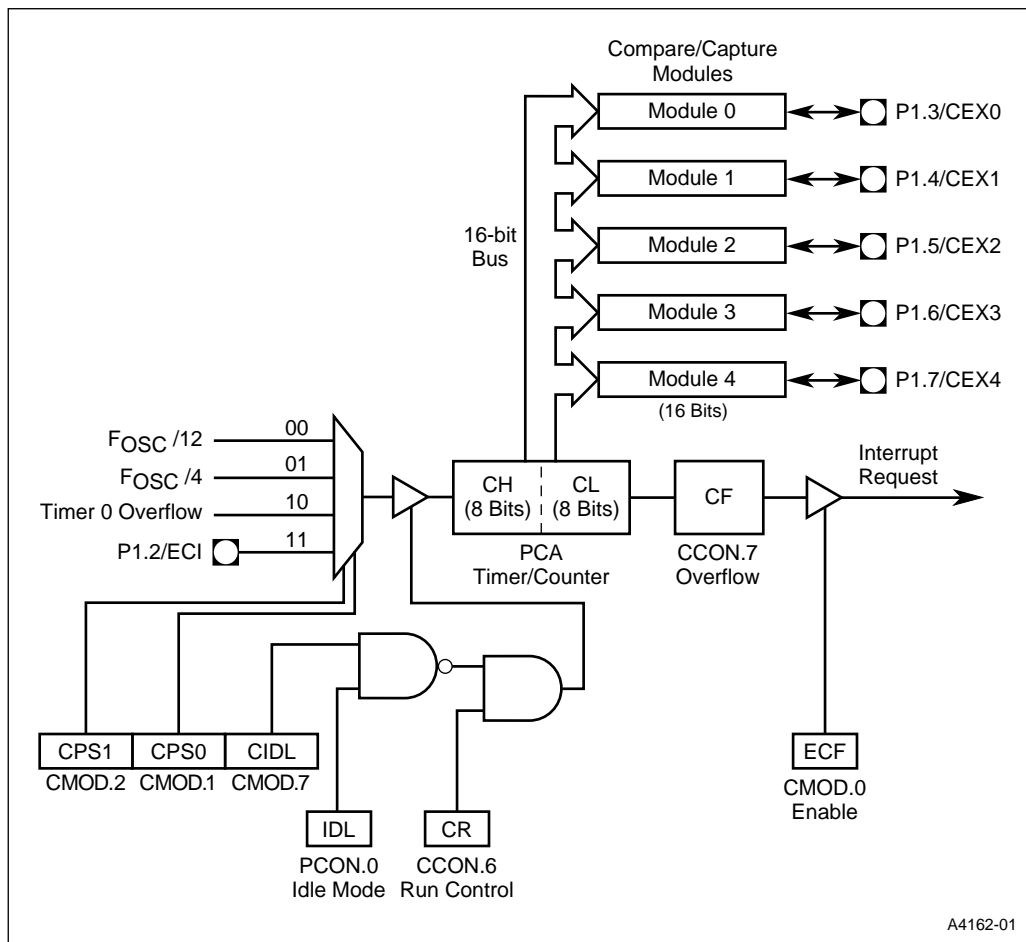
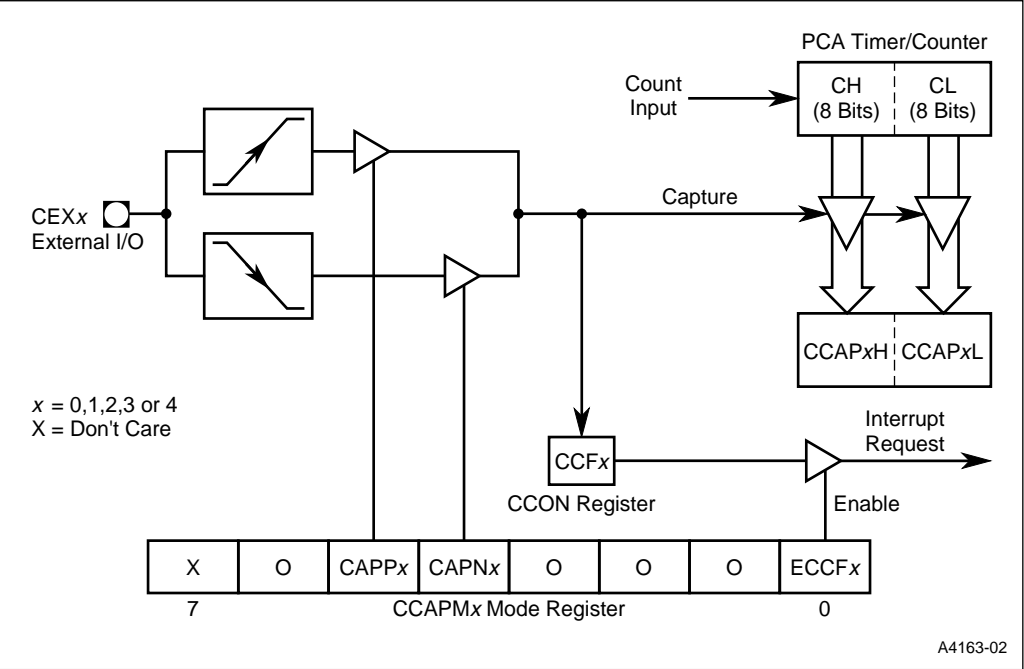

Figure 8-1. Programmable Counter Array
Figure 8-2. PCA 16-bit Capture Mode
The programmable counter array (PCA) consists of a 16-bit timer/counter and five 16-bit compare/capture modules. The timer/counter serves as a common time base and event counter for the compare/capture modules, distributing the current count to the modules by means of a 16-bit bus. A special function register (SFR) pair, CH/CL, maintains the count in the timer/counter, while five SFR pairs, CCAPxH/CCAPxL, store values for the modules (see Figure 8-1). Additional SFRs provide control and mode select functions as follows:
The PCA timer/counter and the five compare/capture modules share a single interrupt vector. The EC bit in the IE special function register is a global interrupt enable for the PCA. Capture events, compare events in some modes, and PCA timer/counter overflow set flags in the CCON register. Setting the overflow flag (CF) generates a PCA interrupt request if the PCA timer/counter interrupt enable bit (ECF) in the CMOD register is set (Figure 8-1). Setting a compare/capture flag (CCF_x) generates a PCA interrupt request if the ECCF_x interrupt enable bit in the corresponding CCAPM_x register is set (Figures 8-2 and 8-3). For a description of the 8XC251SB interrupt system see Chapter 5, “Interrupt System.”
Figure 8-1 depicts the basic logic of the timer/counter portion of the PCA. The CH/CL special function register pair operates as a 16-bit timer/counter. The selected input increments the CL (low byte) register. When CL overflows, the CH (high byte) register increments after two oscillator periods; when CH overflows it sets the PCA overflow flag (CF in the CCON register) generating a PCA interrupt request if the ECF bit in the CMOD register is set.
Setting the run control bit (CR in the CCON register) turns the PCA timer/counter on, if the output of the NAND gate (Figure 8-1) equals logic 1. The PCA timer/counter continues to operate during idle mode unless the CIDL bit of the CMOD register is set. The CPU can read the contents of the CH and CL registers at any time. However, writing to them is inhibited while they are counting i.e., when the CR bit is set.
The logical configuration of a compare/capture module depends on its mode of operation (Figures 8-2 through 8-5). Each module can be independently programmed for operation in any of the following modes:
The capture mode (Figure 8-2) provides the PCA with the ability to measure periods, pulse widths, duty cycles, and phase differences at up to five separate inputs. External I/O pins CEX0 through CEX4 are sampled for signal transitions (positive and/or negative as specified). When a compare/capture module programmed for the capture mode detects the specified transition, it captures the PCA timer/counter value. This records the time at which an external event is detected, with a resolution equal to the timer/counter clock period.